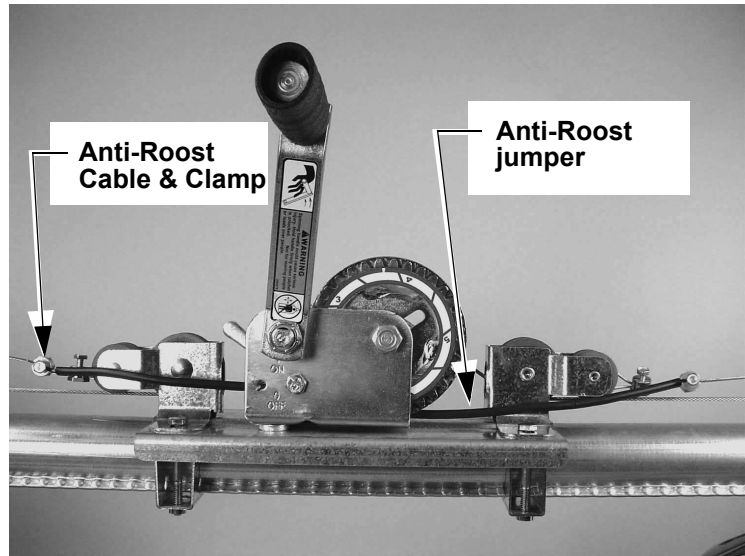
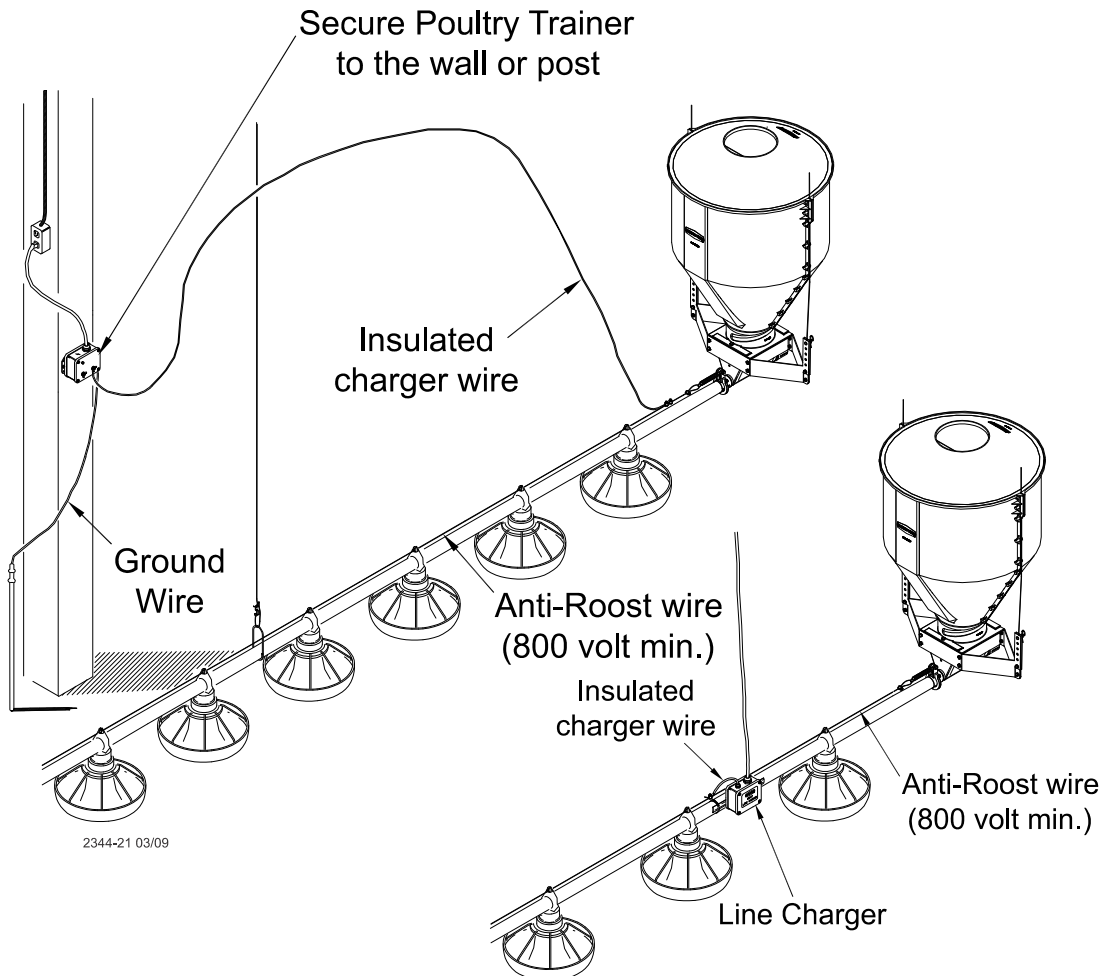

Figure 59. Anti-Roost Cable Connection
Figure 60. Anti-Roost Cable Mid-Line Connection
12. Install the Poultry Trainer or Line Charger, as shown in **Figure 59** or **Figure 60**.
The Poultry Trainer is used to power all Anti-Roost lines in a house. See **Figure 60**.